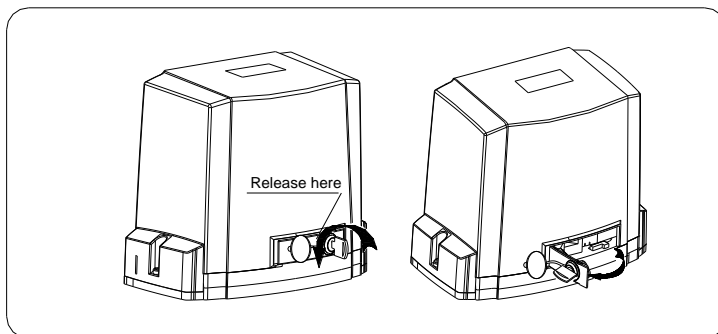

Fig.8
**Manual operation** (see Fig.8)